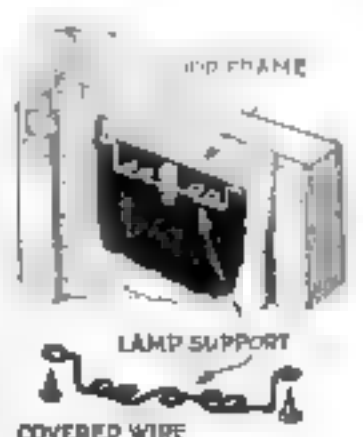

Fig. 7. An easily accessible holder, made of wire protects bulbs and can be fitted in door pocket.
**IT IS** certainly worth-while to carry spare bulbs for headlights, sidelights and tail-light on your car. No one can predict just when they will be needed. A simple holder for bulbs, made of wire, is shown in Fig. 7, bent into loops the right size and then screwed into the door frame.